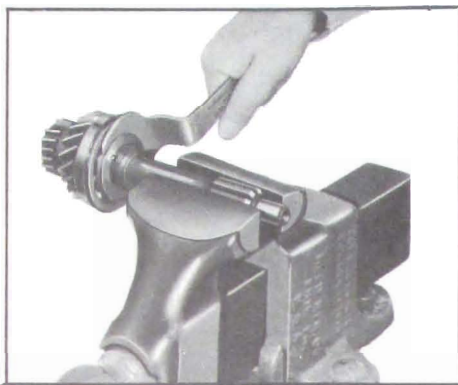

Figure 4-28—Removing Retainer Nut and Oil Slinger
1. Place the clutch gear in a vise with soft jaws, and remove the bearing retainer nut and oil slinger using Tool J-0933. See Figure 4-28.